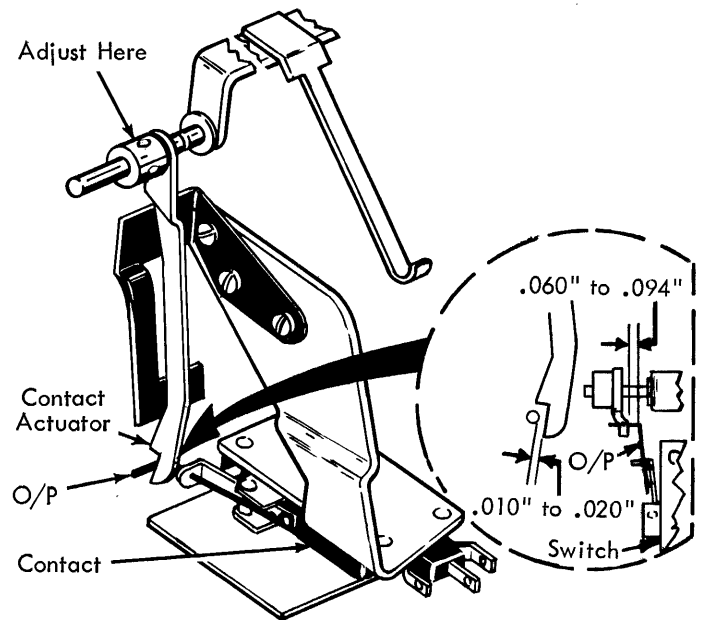

FIGURE 258. Last Column Contact (Late)
2. Last Column Contact (Fig. 258)